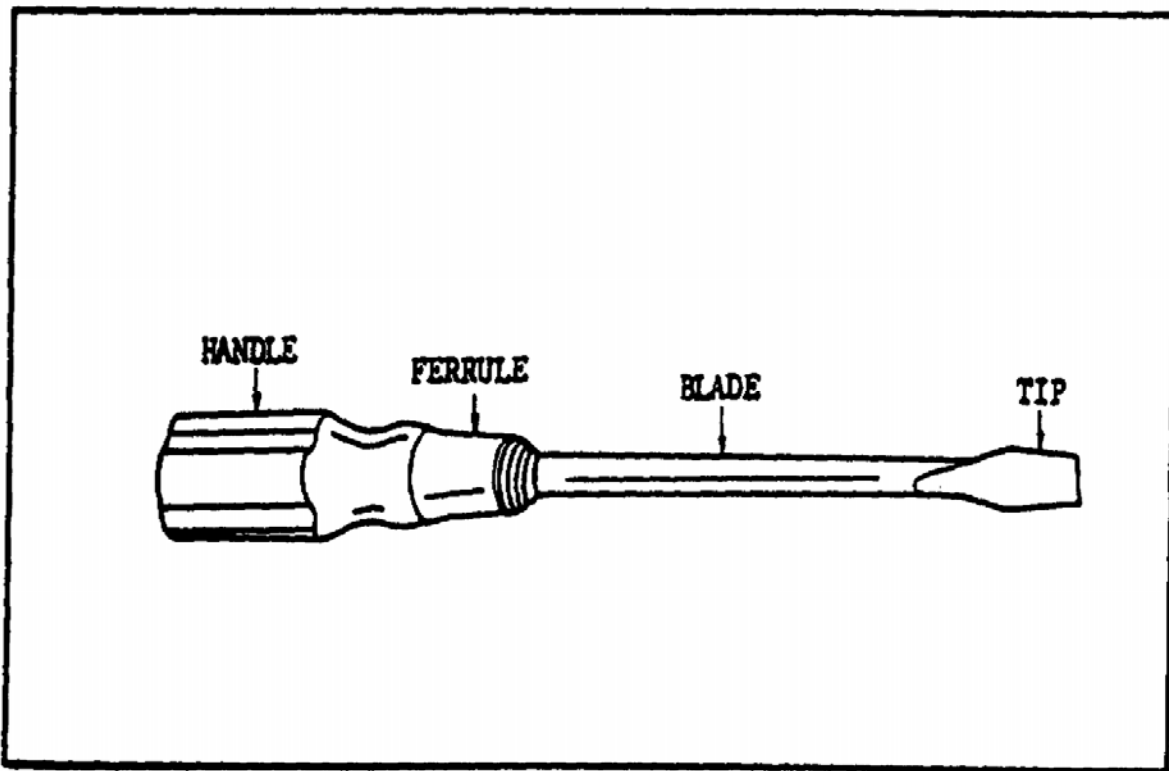

FIGURE 7. STANDARD SCREWDRIVER.
(1) *General.* Screwdrivers are made in various shapes and lengths to perform specific jobs. The size of a screwdriver (figure 7) is indicated by the length of the blade; i.e.; a 6 inch screwdriver has a 6 inch blade. The width and shape of the blade tip vary from a narrow parallel sided tip to a wide tapered tip. Some screwdrivers have special tips for cross-slotted recessed screws or bolts and clutch-bit screws. Special screwdrivers are provided with a ratchet arrangement.
(13) *Snap Fastener Screwdriver.* A snap fastener screwdriver (not illustrated) is similar to the standard screwdriver shown in figure 7. They are made by snap fastener manufacturers to fit only their products.